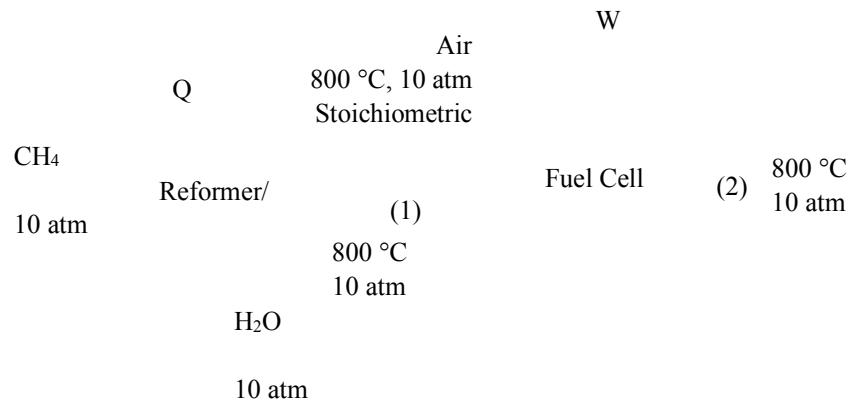

Figure 2 - Methane Fuel Cell System
A fuel cell system is proposed as shown in **Figure 2**. The system utilizes methane and air. All stream conditions are given in the figure. Across the fuel cell, assume that only hydrogen is consumed in the electrochemical reactions with 100% hydrogen utilization. Carbon monoxide passes through the fuel cell without change. Within the cell, O^{2-} ions move through the electrolyte from the cathode to the anode. The flow rate of air at the cathode inlet is determined such that the ratio of the flow rate of the fuel stream (1) to the air stream is stoichiometric. All gases can be treated as ideal gases.